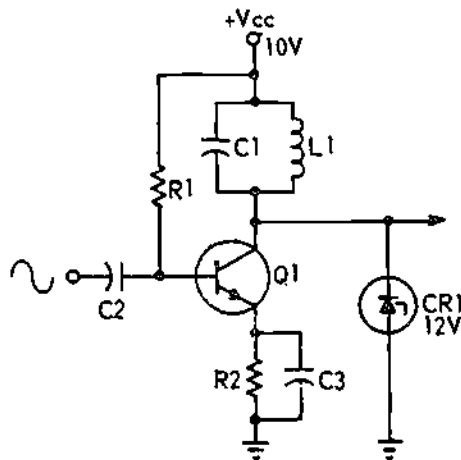

Figure 50-2. Transistor Limiter
1. Refer to figure 50-2. In this circuit, limiting of the output signal would occur if